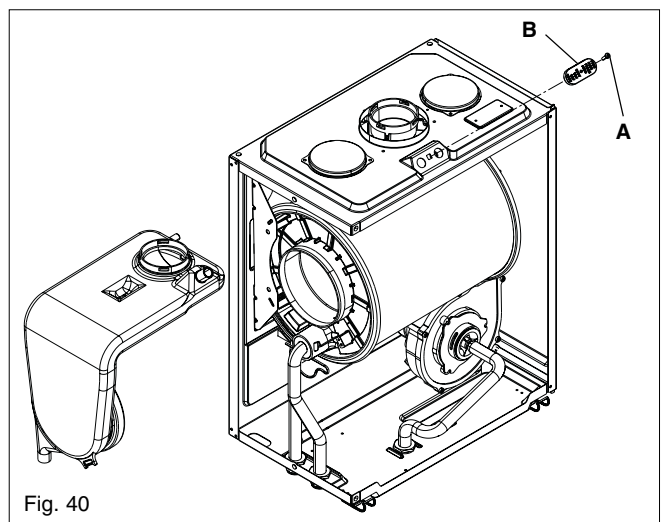

Fig. 40
6.27 FLUE COLLECTOR REMOVAL (fig. 40)